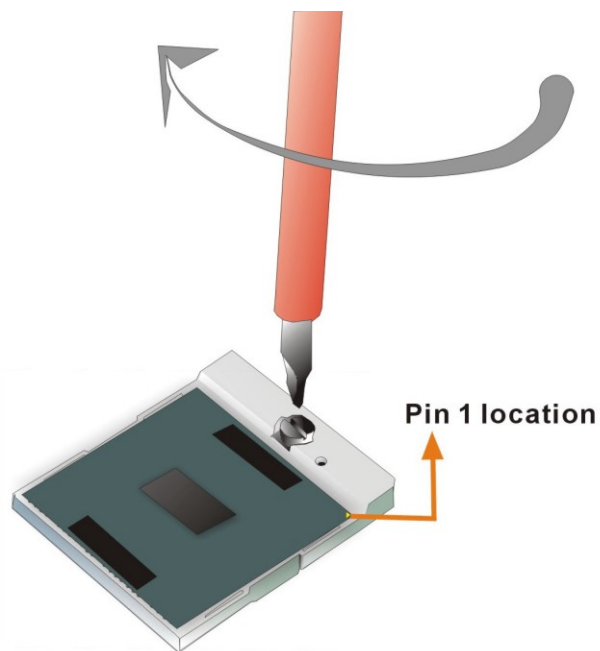

Figure 5-2: Lock the CPU Socket Retention Screw
- Step 7:** **Lock the retention screw.** Rotate the retention screw into the locked position. See **Figure 5-2**.